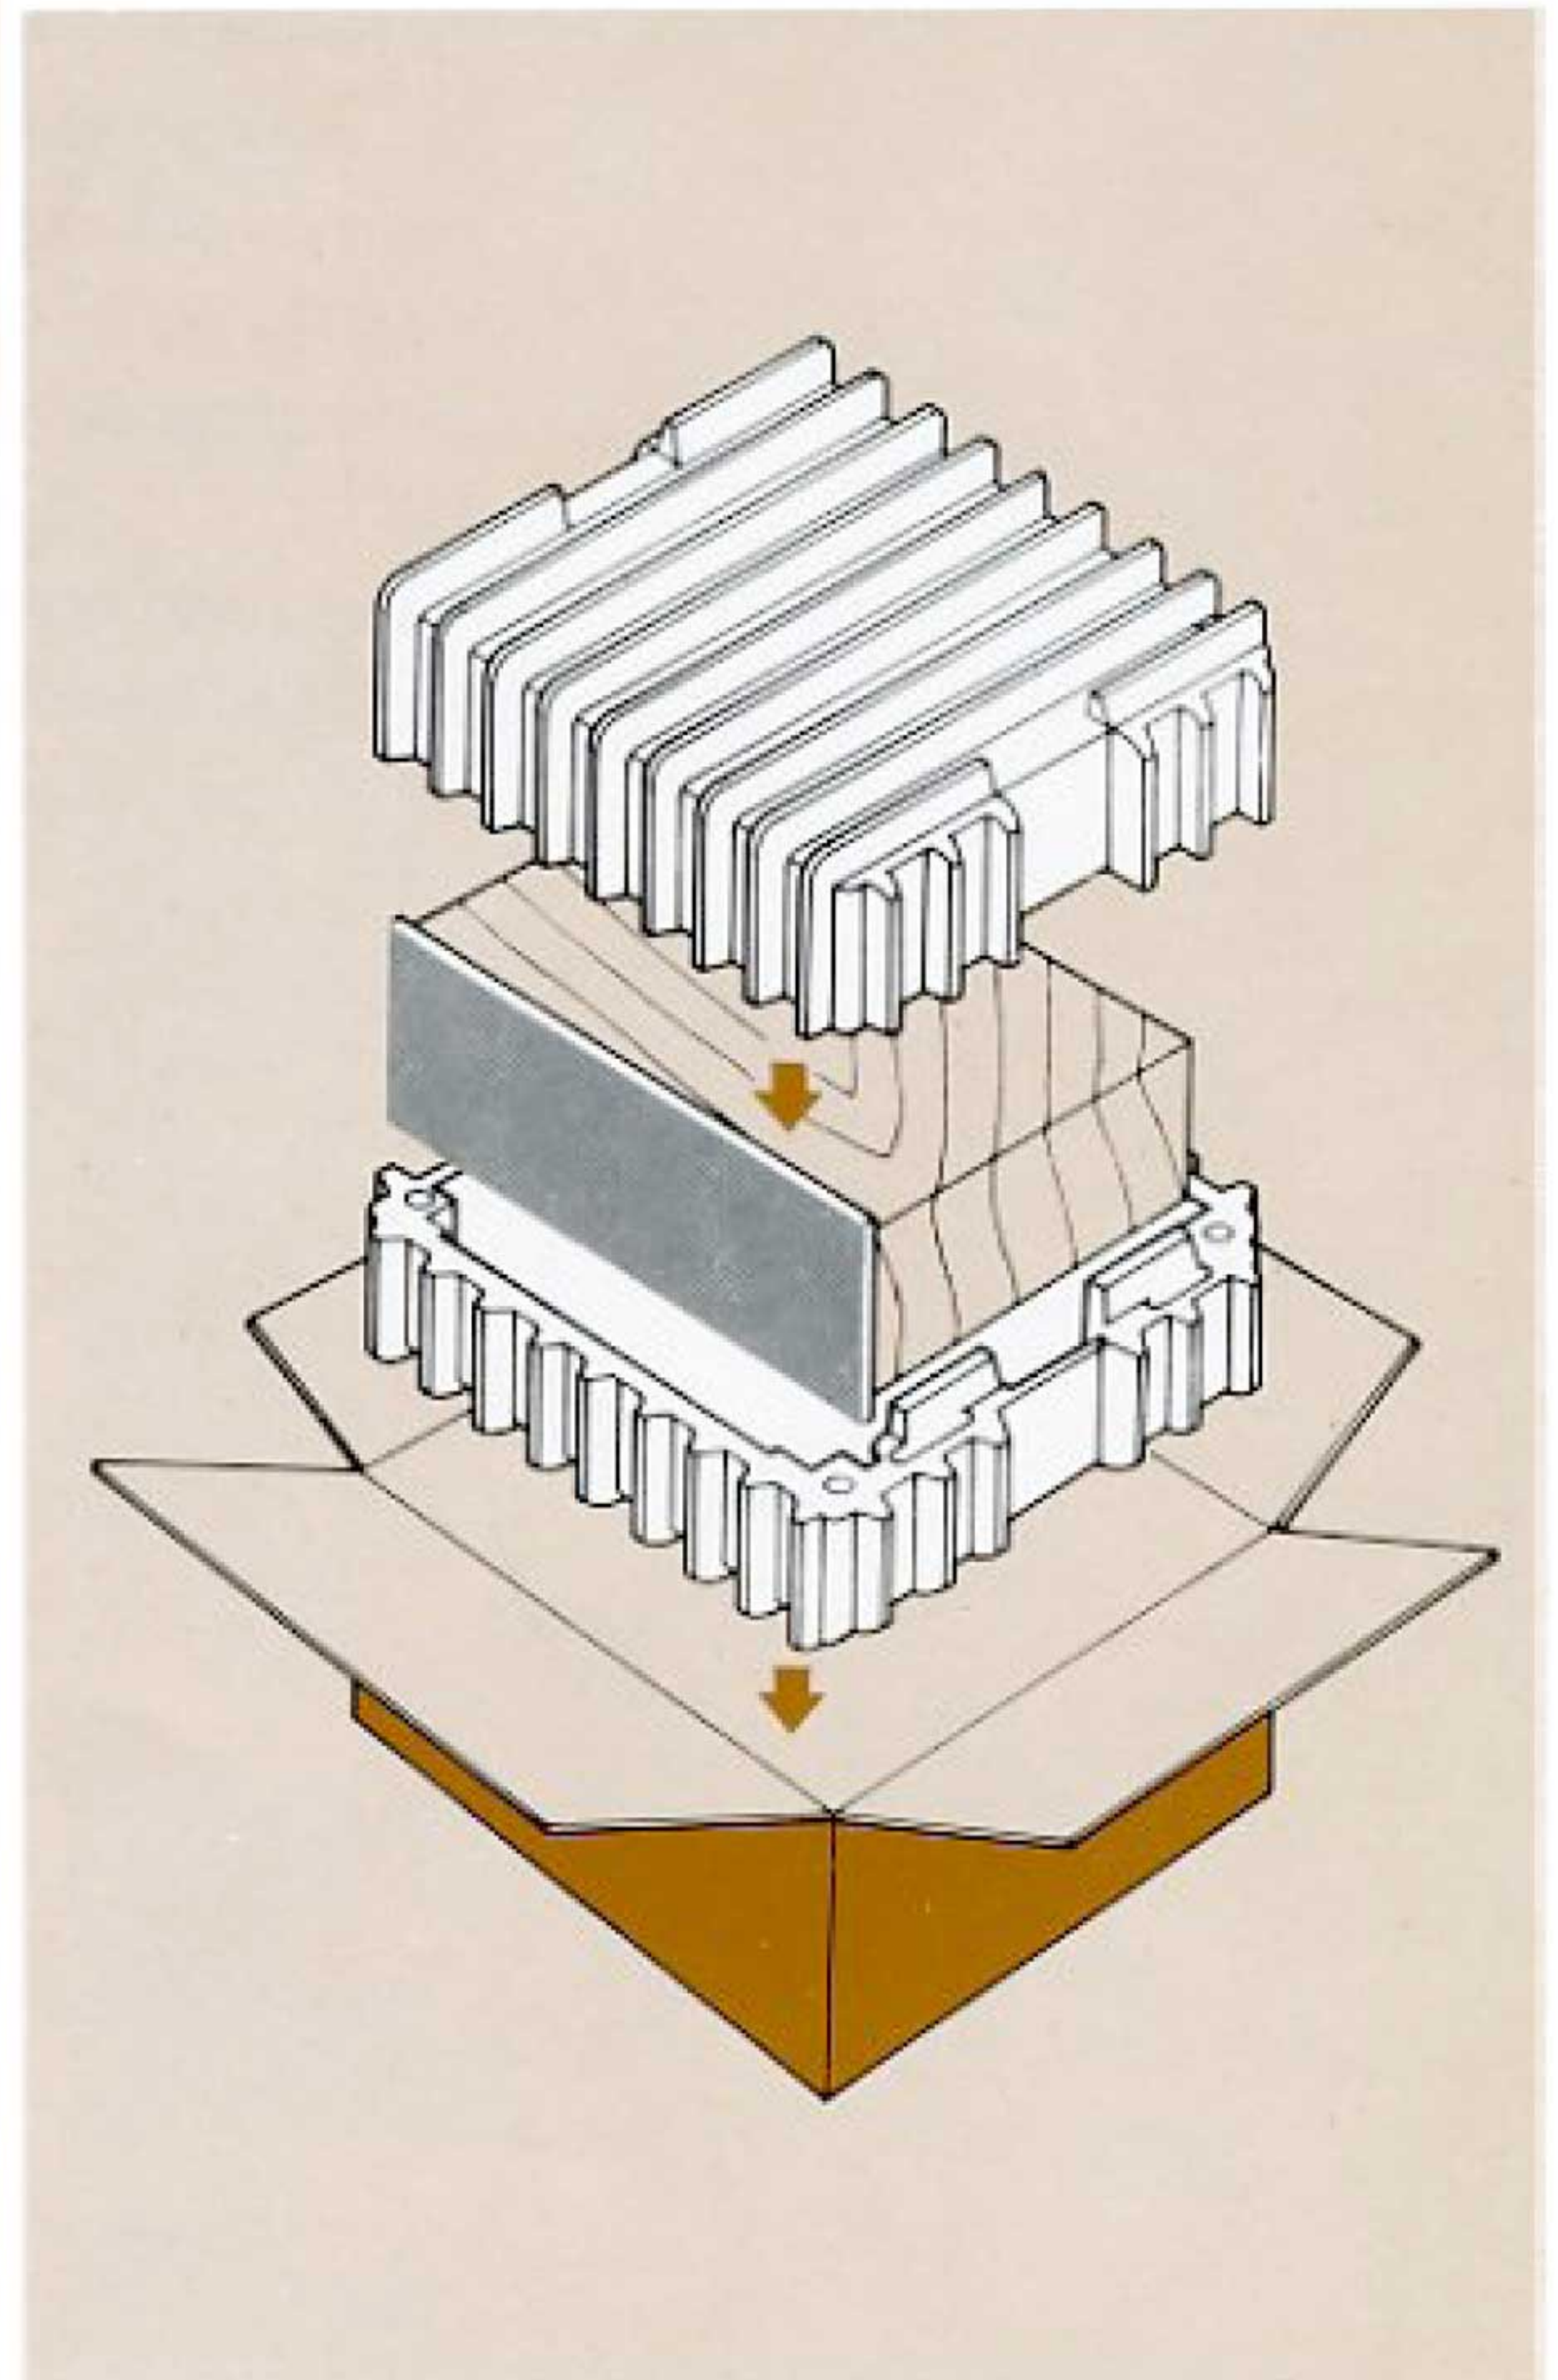

Figure 8. Packing Instructions
- c. Pack the unit carefully, using the original material as shown in Figure 8.